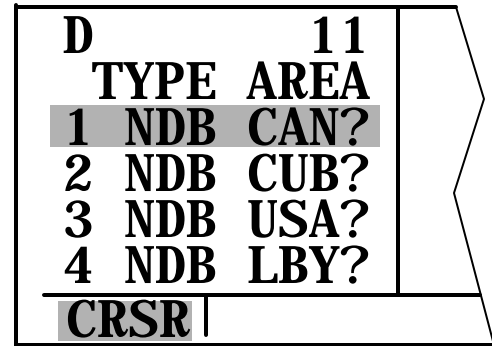

Figure 3D-6. Duplicate Waypoint Page
d. The Duplicate Waypoint Page. There are some waypoints in the database with the same identifier. When a waypoint identifier has been entered that is not unique to a single waypoint, a duplicate waypoint page displays on the left side. The duplicate waypoint page is used to select which of the waypoints having the same identifier is actually desired. The waypoint identifier is displayed on the top left of the page. Refer to Figure 3D-6.
(1) To the right of the identifier is the number of waypoints in the database having the identifier. Below the identifier is a list of the waypoint types and the associated countries which use the identifier. If there are more than four waypoints having the same identifier, only the first four are initially shown. The cursor will be over the first waypoint listed. They are listed with the waypoint closest to the aircraft's present position displayed first and the waypoint farthest from the aircraft displayed last. To view the rest, rotate the left outer knob clockwise. Doing so will move the cursor over waypoints two, three, and four and then will cause the waypoint list to scroll so that the other waypoints in the list may be seen. To select the desired waypoint: